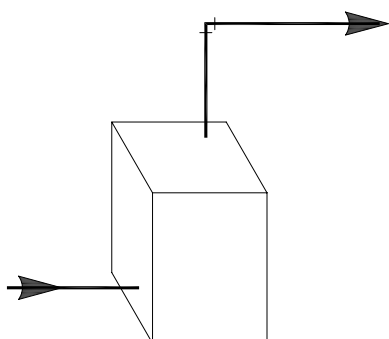

Figure 3.1: Water Boiler Piping
3. The supply should be out the top of the back section and return to the bottom of the front section as shown in Figure 3.1. There is a 3/4" tapping in the top of the back section for air elimination.